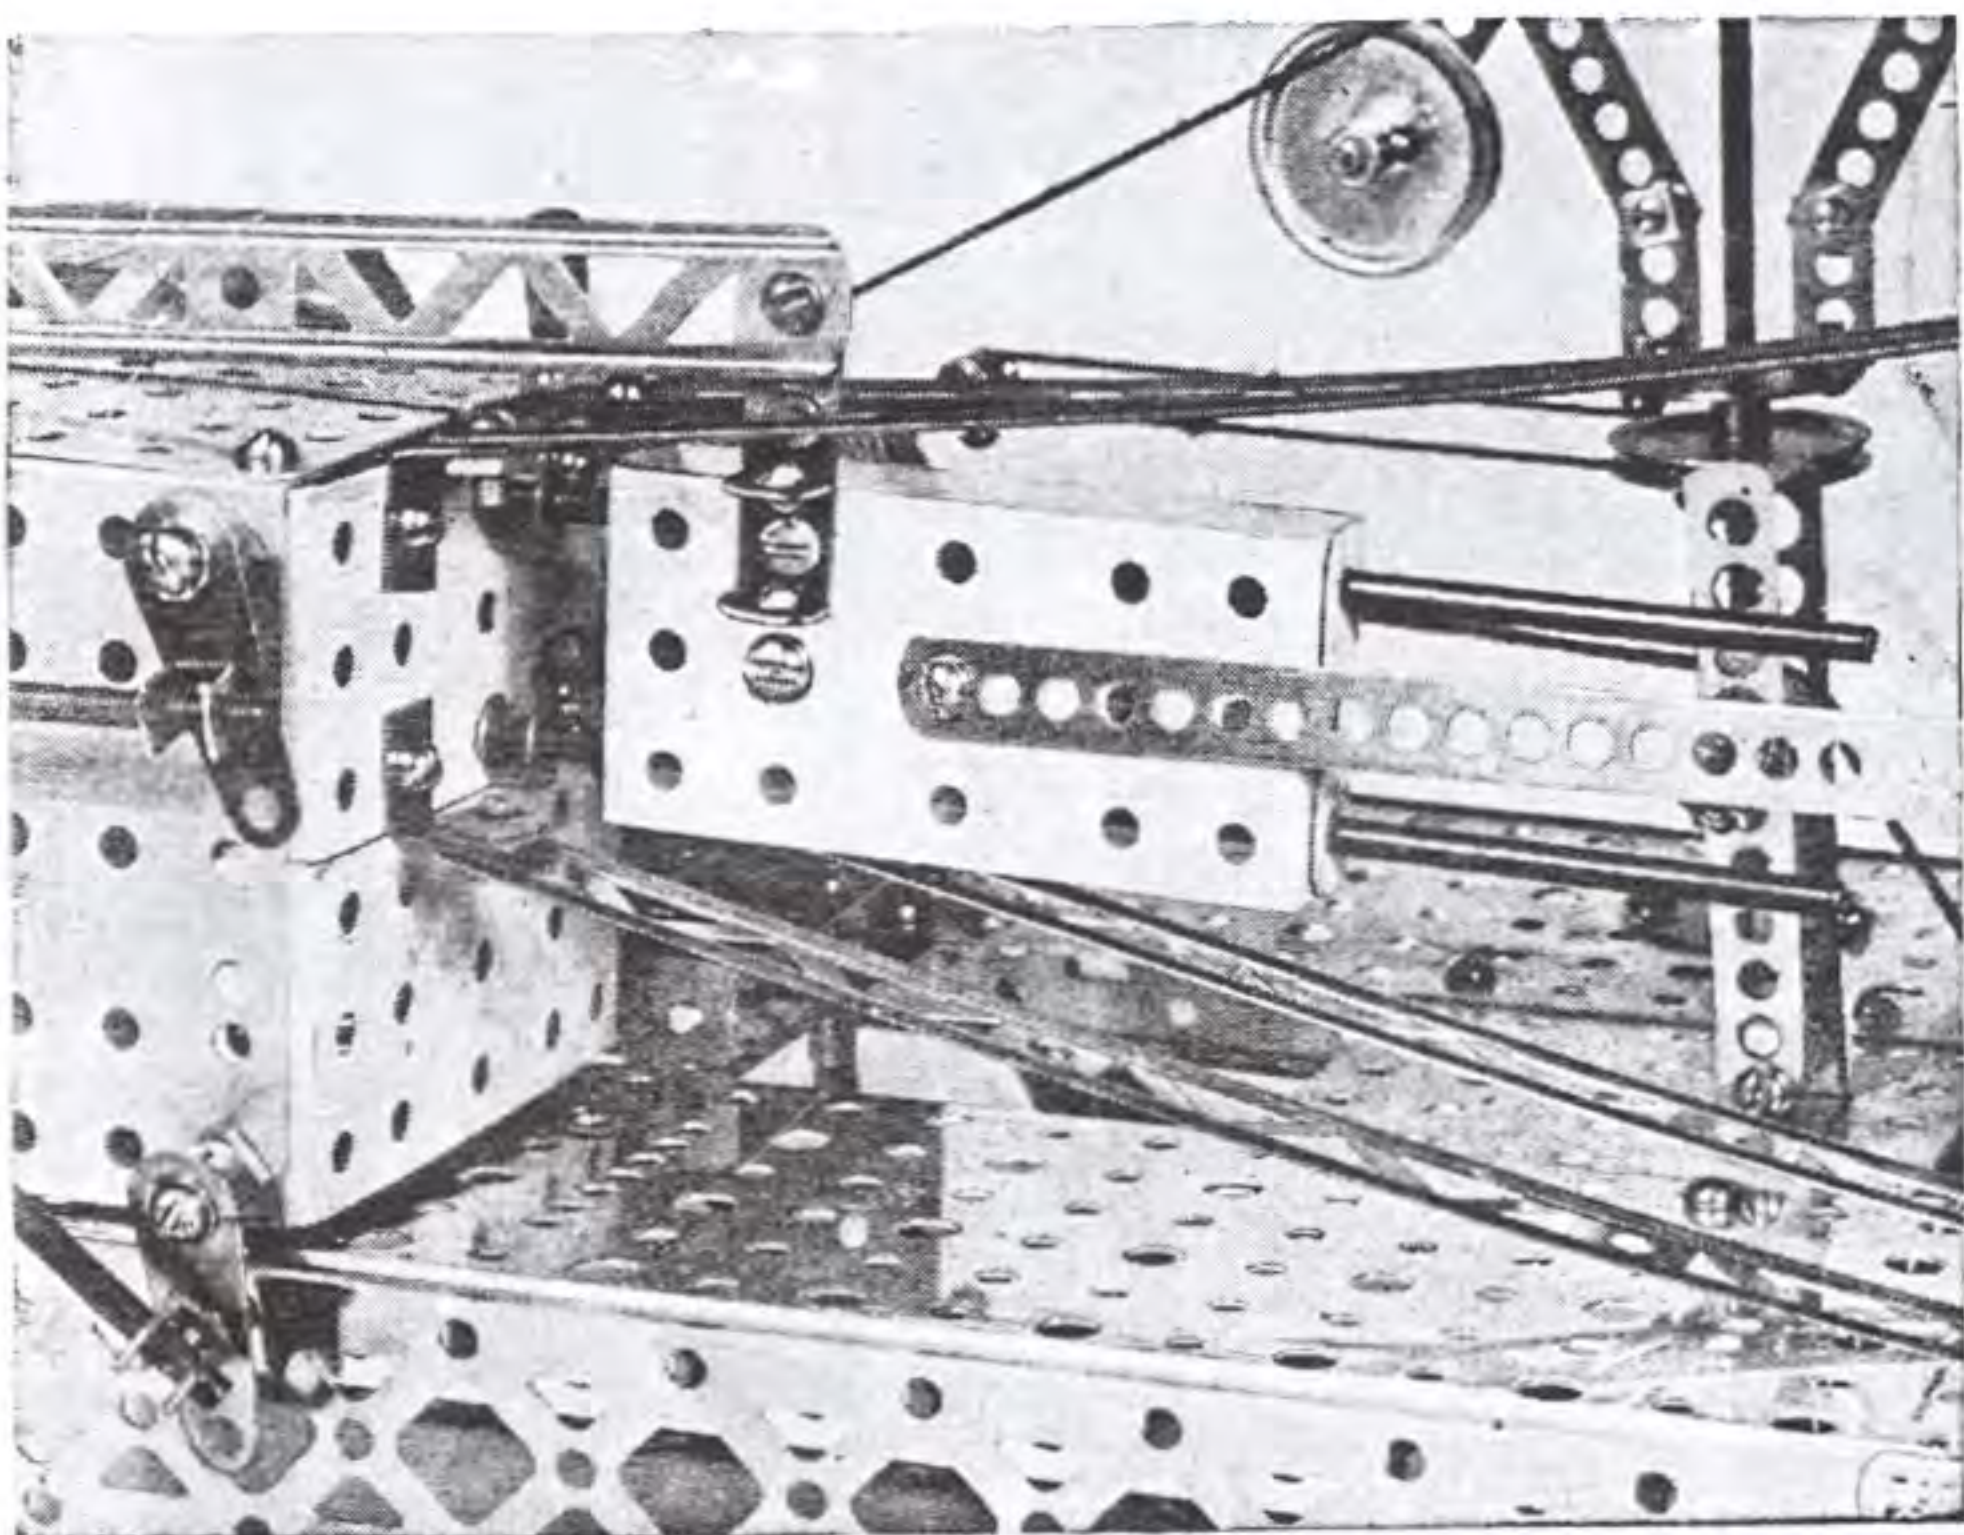

FIGURE 4
To the front end of the upper (MC) 1" x  $2\frac{1}{2}$ " base plates are fastened 4 (CH) right angles as shown in Figure 4.
The tower for the compressors, (T) boilers, is built with 4 (C) 10" girders on each side with a cross-bracing of 2 (B) 5" girders fastened to the 10" girders with (CH) right angles. From the middle holes on two tower legs are fastened 2 (C) 10" girders to the top two (CH) right angles on the steam cylinder. From the bottom two (CH) right angles are fastened (C) 10" girders to the base of rear two tower supports. See Figure 1 and Figure 4.